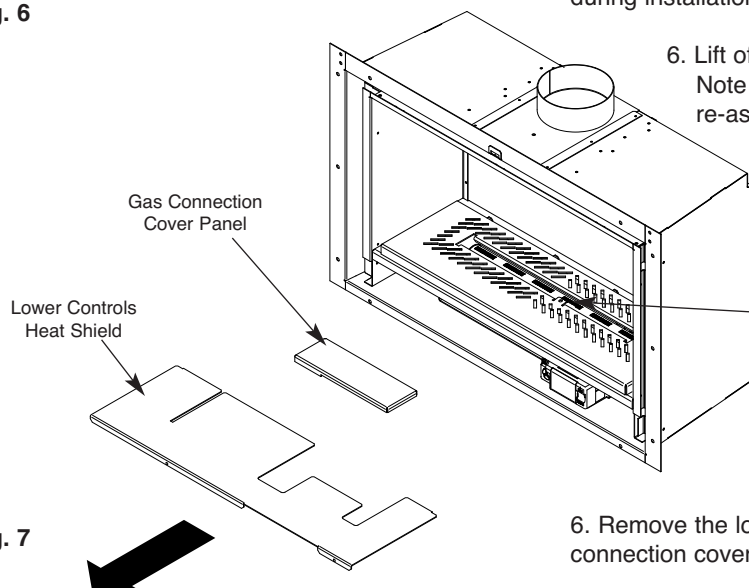

Fig. 7
6. Remove the lower controls heat shield and gas connection cover panel (Fig. 7).